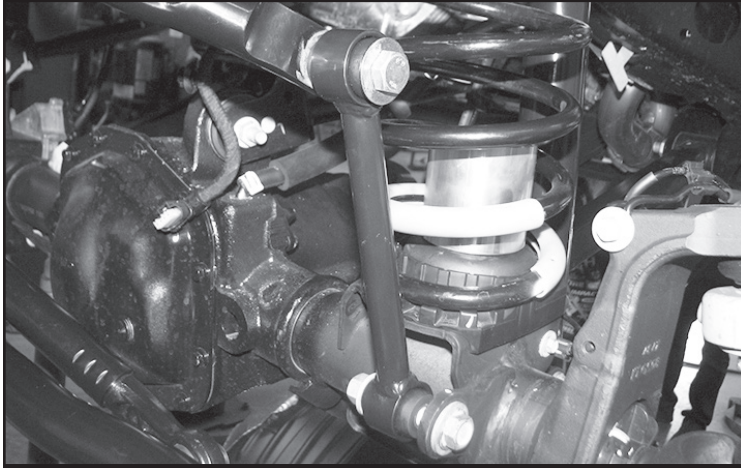

FIGURE 24 - STEP 23
23. Install FT50048 (Bushings) and FT404739 (Sleeves) into FT50026BK (Sway bar links). Then, install the links to the axle mount and sway bar using the supplied M12 x 70mm or M14 hardware (2024 Models) for the upper location and the factory for the lower. Torque to 65 ft-lbs. **SEE FIGURE 24**